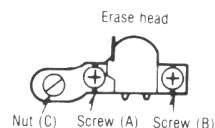

Fig. 2
- The serial number plate of this product to attached to the back chassis (shown in fig. 2).
1. Adjust nut (C) shown in fig. 2 so that the tape may not get curled or malformed by tape guide of the erase head.